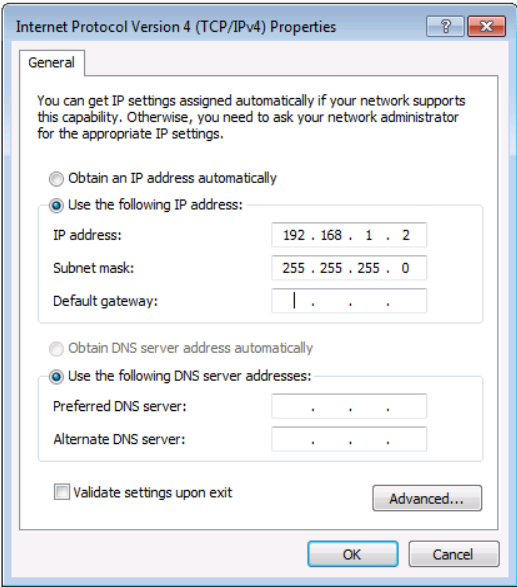

Figure 6: Internet Protocol Properties Window
- Select **Use the following IP Address** for static IP addressing and fill in the details as shown in Figure 6.